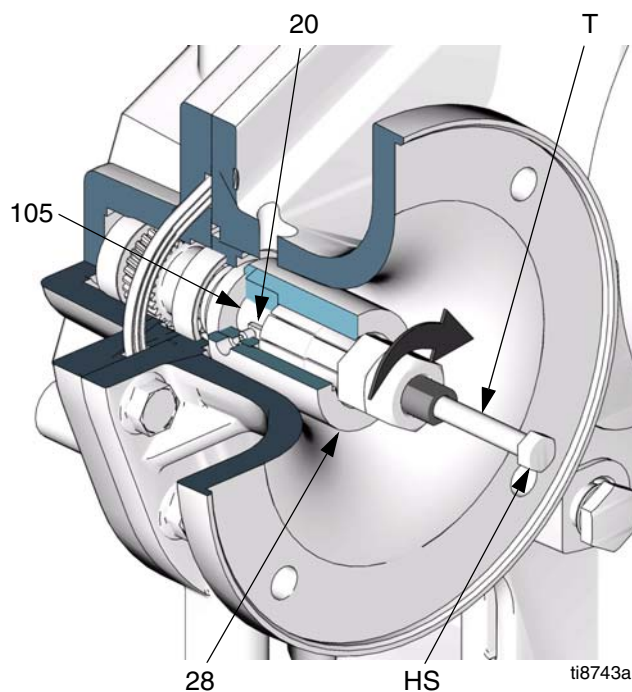

FIG. 3. Motor Coupler Removal
- b. See FIG. 3. Loosen both setscrews (31). Insert the coupler removal tool (T) into the coupler (28). Turn nut clockwise until tight, then pull the coupler off the gear reducer input shaft (105) by turning hex-head screw (HS) clockwise.